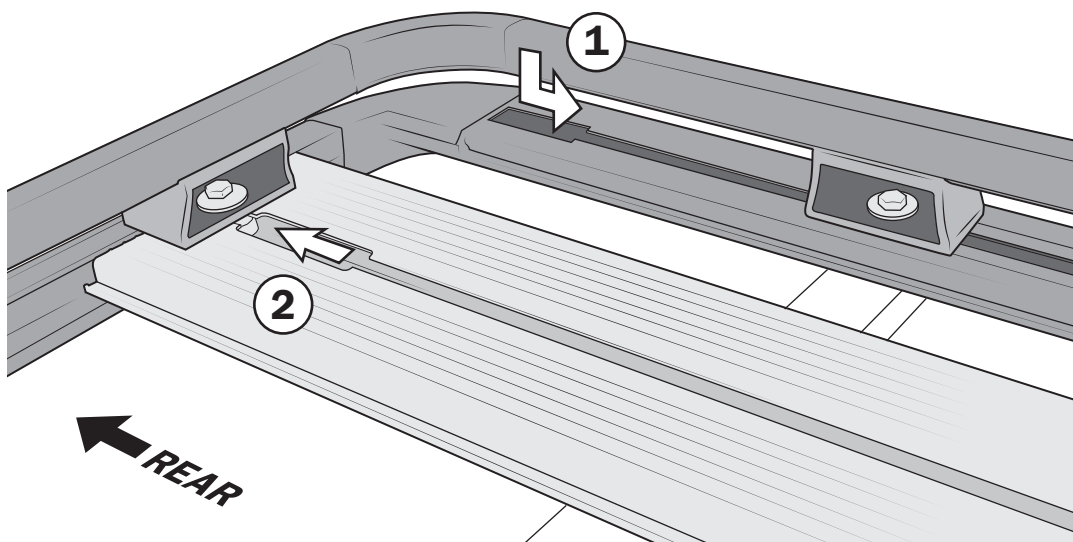

Figure 5
2. Starting at the rear of the Roof Rack Platform and working forward, insert channel nuts into the corresponding channels on the platform (Fig. 5 #1).
3. Once the rail is in position over the platform, insert remaining three channel nuts into the platform channel and push forward to align with rail feet. Now insert bolt and flat washer to secure front feet (Fig. 5 #2).